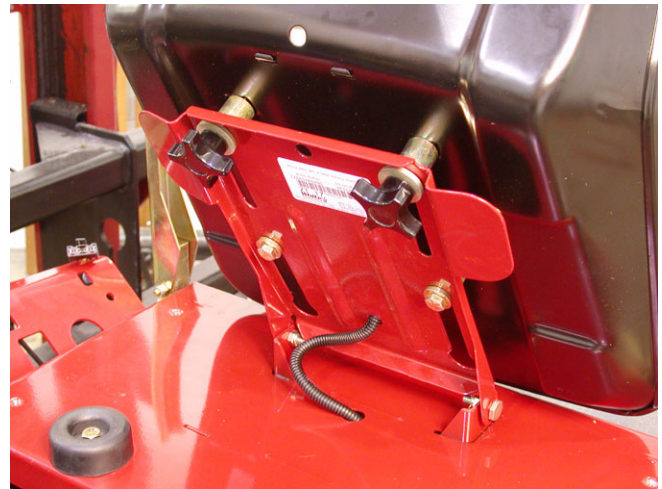

Figure 12.2
- 12.2. Flip the seat forward. Keep one hand on back of seat to prevent seat from trying to fall back. See Figure 12.2.